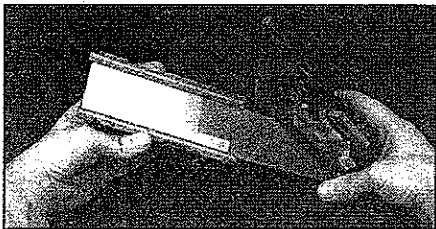

Figure 39
8. Pick up the display PCB with your **right hand** and carefully guide the backlight over the LCD and between the zebra retainers (see Figure 39).